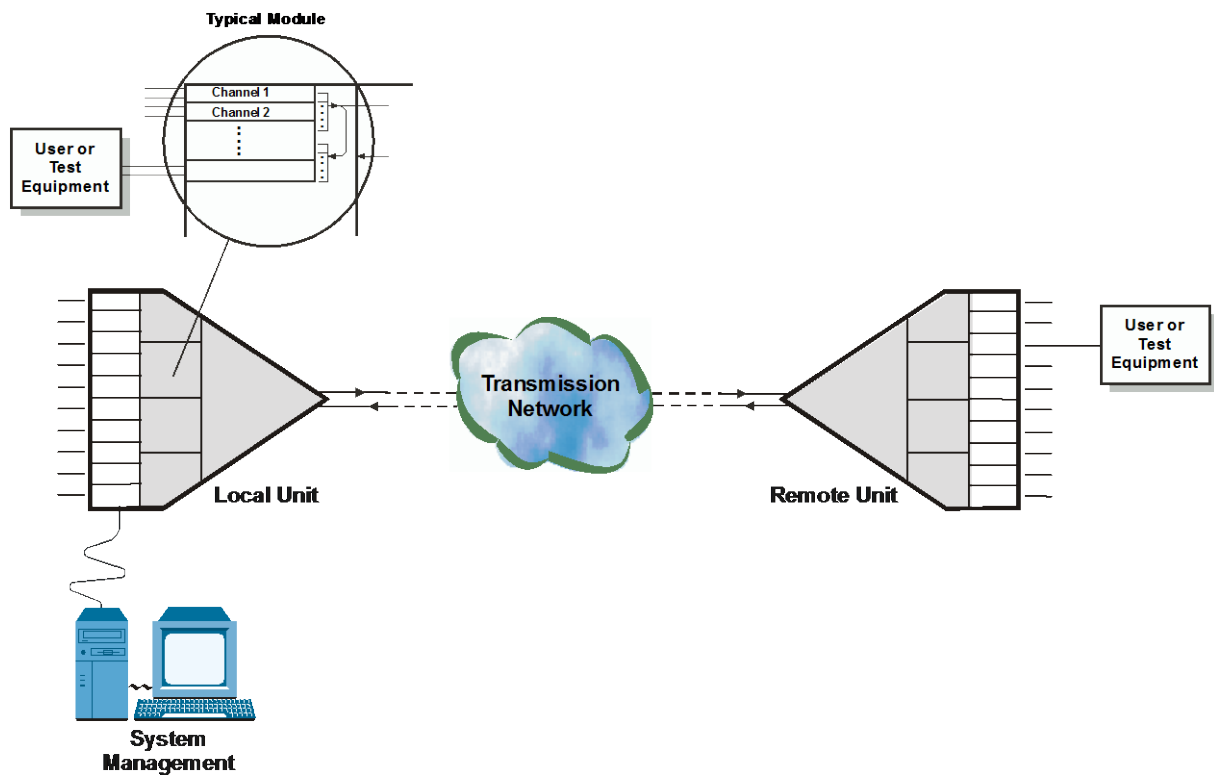

Figure 6-10. I/O Module, Local Loopback on Module Output
- A local loopback on the multiplexed output signal of the module (*Figure 6-10*) allows the separation of faults in the module itself from faults in the other Megaplex hardware: if the test at the module level fails, the problem is certainly in the module itself.